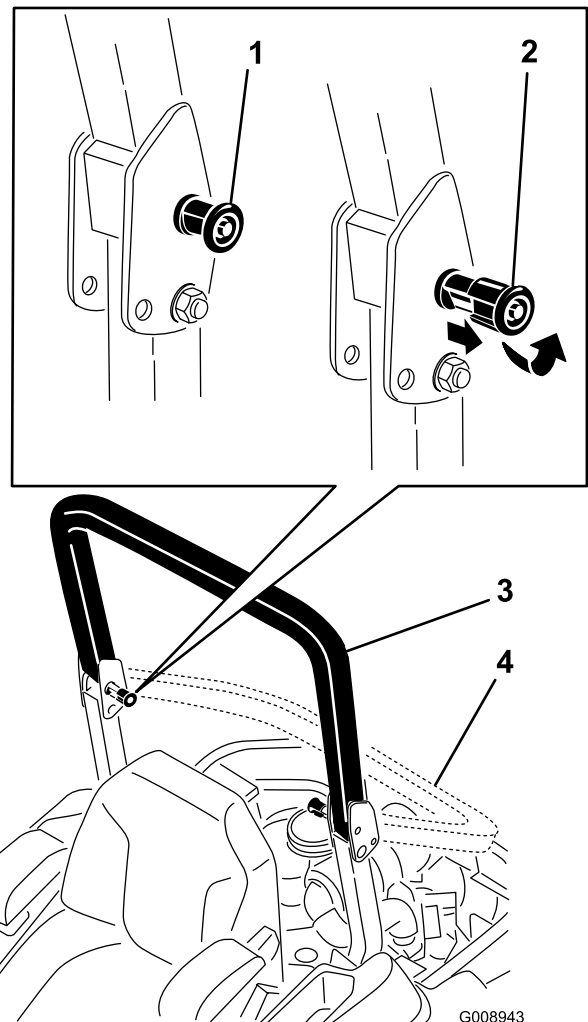

Figure 8
2. Pull both knobs out and rotate them 90° so that they are not engaged (Figure 8).
3. Lower the roll bar to the down position (Figure 8).
4. To raise the roll bar, raise the roll bar to the operate position, rotate the knobs so that they move partially into the grooves (Figure 8).
5. Raise the roll bar to the full upright position while pushing on the upper roll bar and the pins will snap into position when the holes align with the pins (Figure 8). Push on the roll bar and ensure that both pins are engaged.